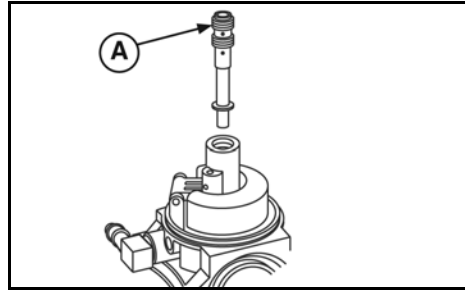

Figure 44
2. Using Carburetor Nozzle Screwdriver #19280, remove the main carburetor emulsion tube (A, Figure 44).